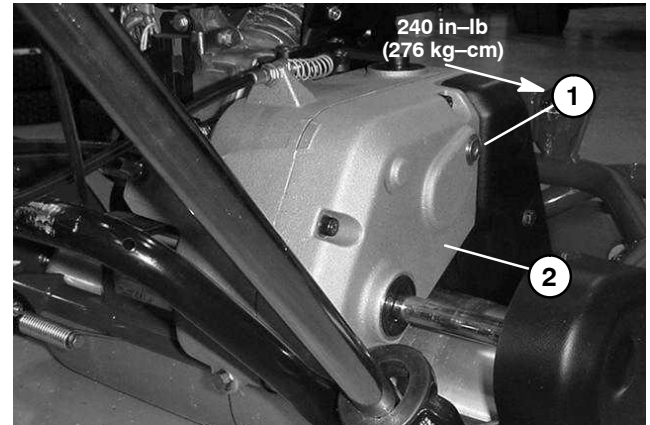

Figure 1
2. Remove the check/fill plug with o-ring from the right side of the gearbox assembly (Fig. 1). The fluid level should come to the bottom of the fill hole.